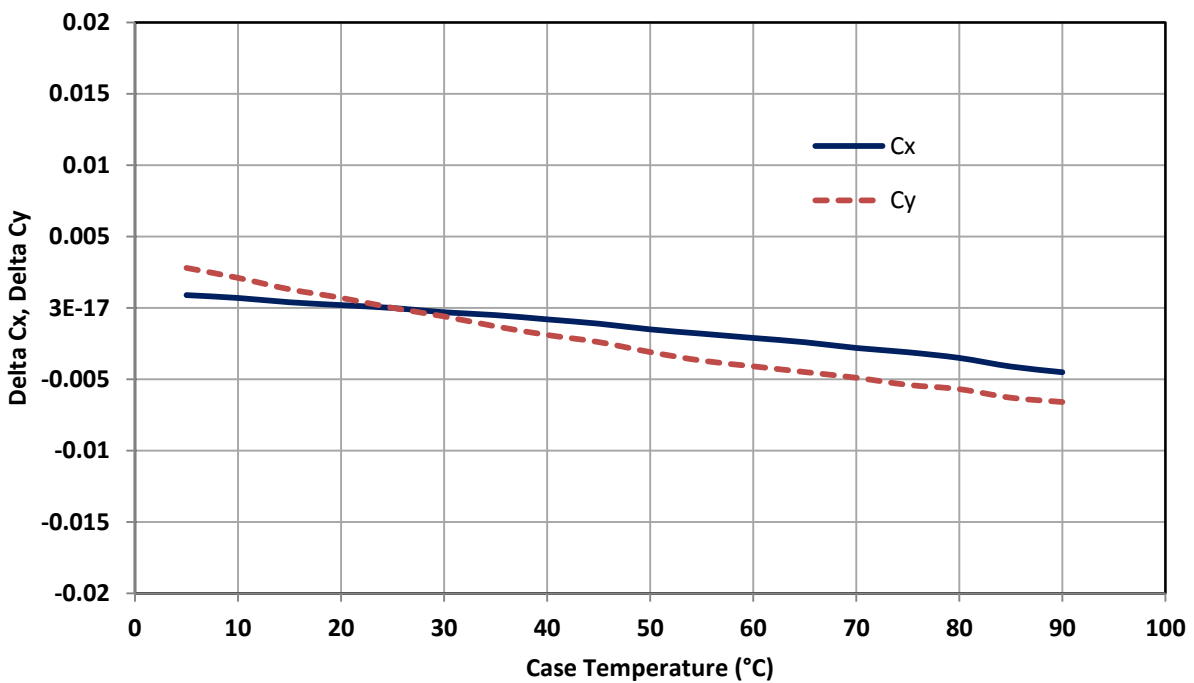

Figure 10: Typical dominant wavelength shift vs. Case temperature.
- Maximum DC forward current (per die) is determined by the overall thermal resistance and ambient temperature. Follow the curves in Figure 10 for current derating.